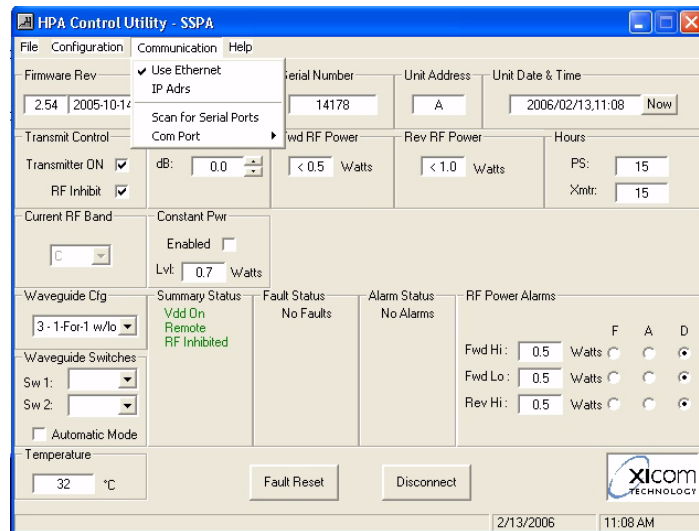

Figure 26, Communications Menu
12. Refer to Figure 26. The communications menu allows you to Use Ethernet for M&C operation. If this option is selected, all M&C operations are done solely over the Ethernet connection; RS232 and RS485 modes are not used.
14. The “Scan for Serial Ports” option (Figure 26) allows you to scan the M&C PC for available RS232 communication ports.